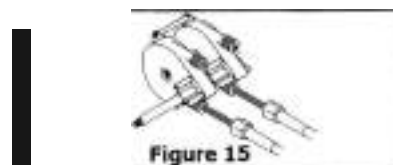

Figure 15
**STEP 2.** Feed the cable ends into the LOWER entry spigots, keeping the conduit fittings aligned, until they contact the internal gears. Then turn the steering wheel to draw the cables fully into the helm. Continue turning the steering wheel until the conduit end fittings are flush with the entry spigots (see Figure 15).